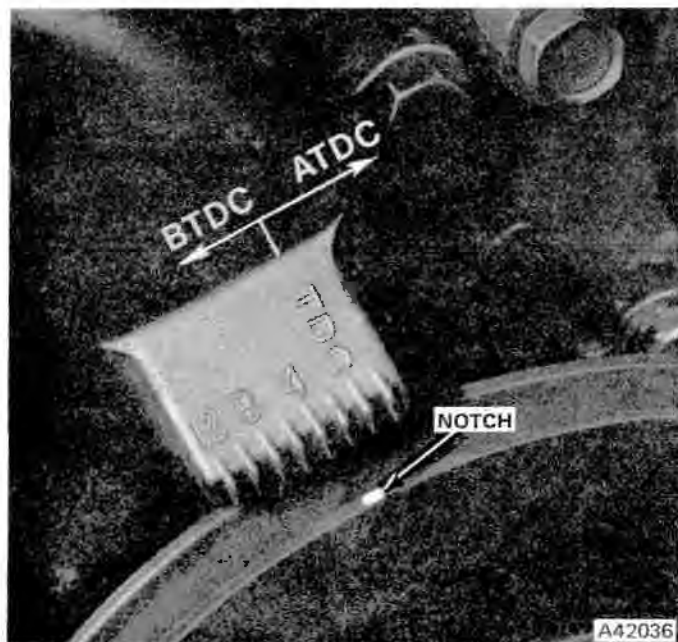

Fig. 3-53 Ignition Timing Marks - Six-Cylinder
(1) Disconnect primary lead and vacuum hose, and remove the distributor cap. Note motor position for proper location during installation.
(2) Remove holddown belt, clamp, and distributor assembly.
(3) Install distributor with rotor positioned in the same location as noted during removal.
(4) Position No. 1 piston at TDC on the compression stroke. To determine if the piston is on compression stroke, remove No. 1 spark plug, place thumb or compression gauge over the spark plug hole, and crank the engine slowly until compression pressure begins to build up. Continue to crank the engine until the timing mark on the vibration damper is aligned with the TDC mark of the timing degree scale as shown in figures 3-53 and 3-54.